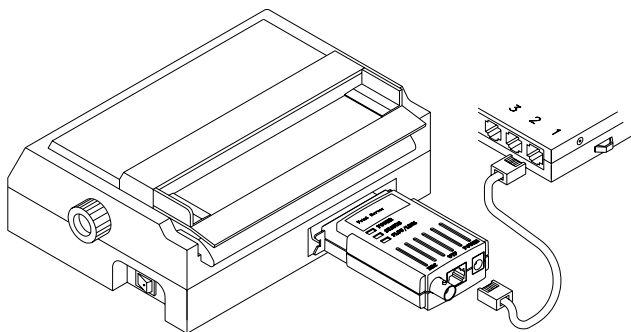

Figure 2-3
2. Connect the other end of the UTP cabling to a 10BaseT hub as shown in Figure 2-3.